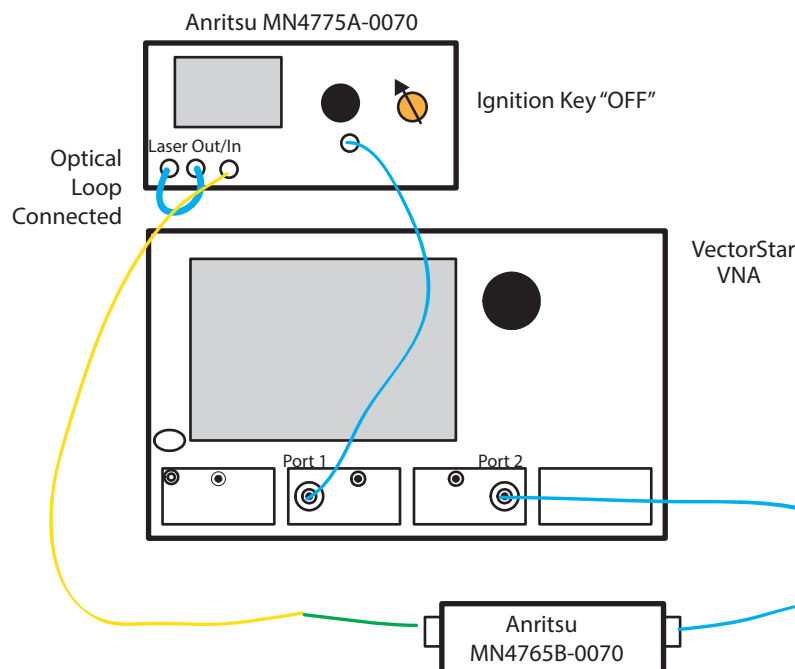

Figure 3-42. Optical Connection to MN4765B-0070
3. Connect **Yellow-colored** end of Optical Patch cable to MN4775A-0070 E/O Converter as shown in Figure 3-42.
4. Connect **Green-colored** end of Optical cable to MN4765B-0070 as shown in Figure 3-42.
5. Connect the VNA Port 1 to Anritsu MN4775A-0070 E/O Converter RF Input as shown in Figure 3-42.
6. Connect Anritsu MN4765B-0070 O/E Module Output to VNA Port 2 as shown in Figure 3-42.
8. Verify **Optical Loop** is in place on MN4775A-0070 E/O Converter as shown in Figure 3-42.